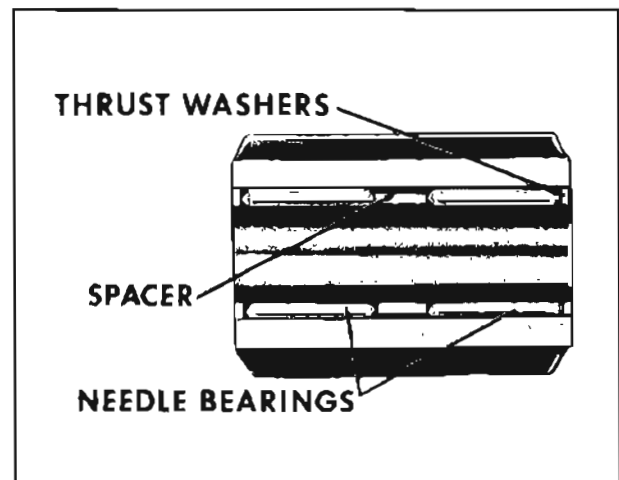

Fig. 6-396 Long Pinion Gear
4. Install needle bearings, thrust washers and spacers. (Fig. 6-396) Refer to Figs. 6-397 and 6-398 and lock the needle bearings. On the long pinion, it will be necessary to lock both sets of needle bearings.